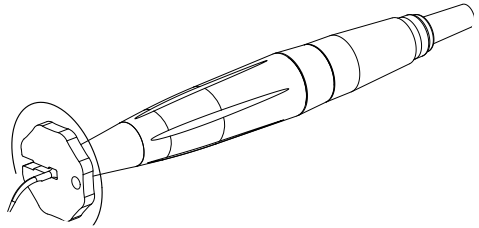

Fig. 5 Tip Tightening with Wrench
3. Sterilize the tips prior to first use (see section 6. "Sterilization"). Select the appropriate tip, and connect it by screwing it on with the supplied wrench. Tighten it moderately (see Fig. 5 below).